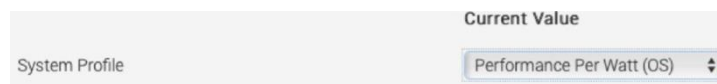

Figure 4: Power profile in BIOS.
**Best Practice:** For HPC workloads, **Performance Per Watt (OS)** is the recommended system power profile setting (**Figure 4**). Again, HPE servers have a similar profile setting. Then, when we get to the step where we can set the ESXi power management, we will choose **High Performance**.